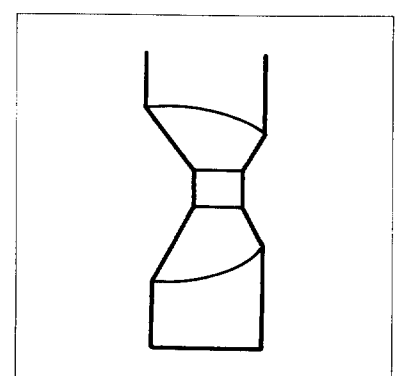

Fig.9-32
- ③ Eccentric push rod (Fig.9-32)